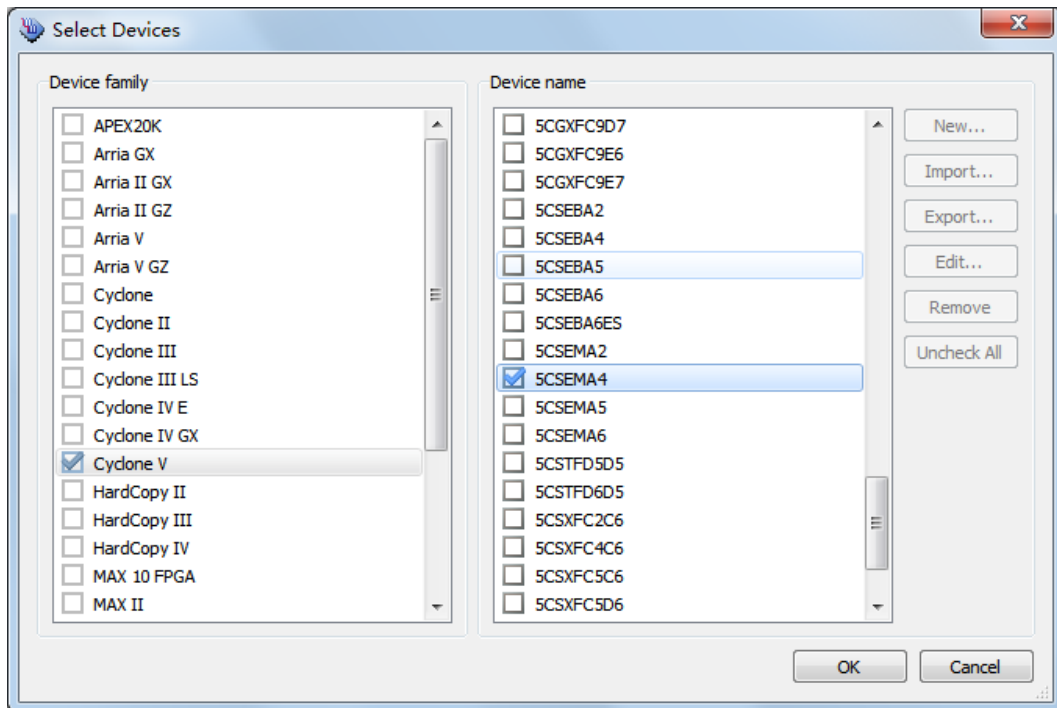

Figure 8-5 “Select Devices” page
12. Select the targeted FPGA to be programed into the EPCS, as shown in Figure 8-5.